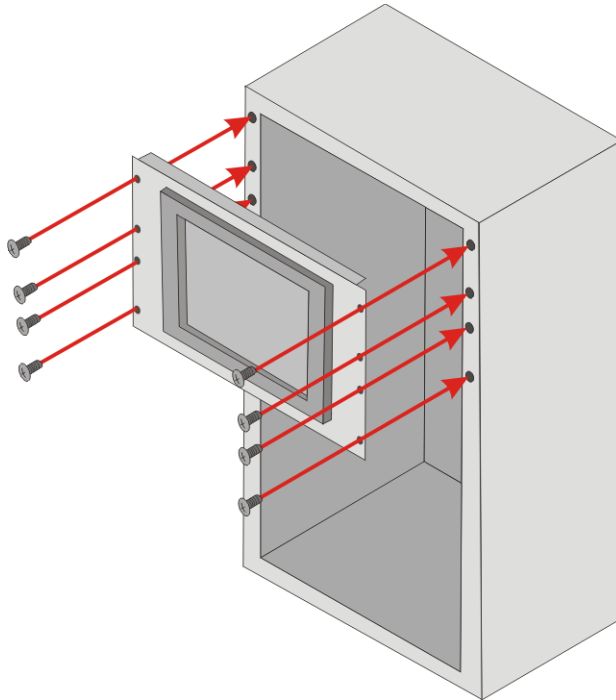

Figure 3-19: Install into a Rack/Cabinet
Step 5: Slide the 2901280 flat panel PC with the attached rack/cabinet bracket into a rack or cabinet. (See **Figure 3-19**)
Step 6: Once the 2901280 flat panel PC with the attached rack/cabinet bracket has been properly inserted into the rack or cabinet, secure the front of the rack/cabinet bracket to the front of the rack or cabinet. (See **Figure 3-19**)